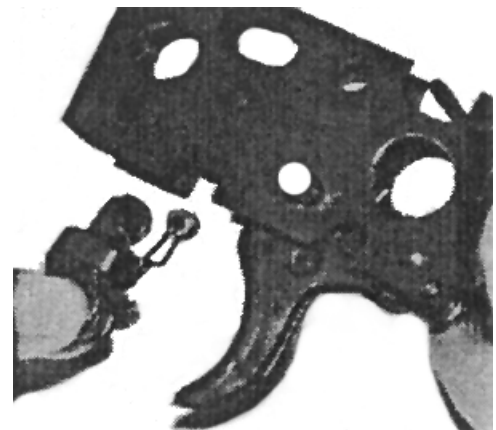

Figure 47
- Move the *catch assembly* into the housing from the bottom and front of the housing (Fig. 47) Align the axle hole and slave the assembly with the *hammer strut*.